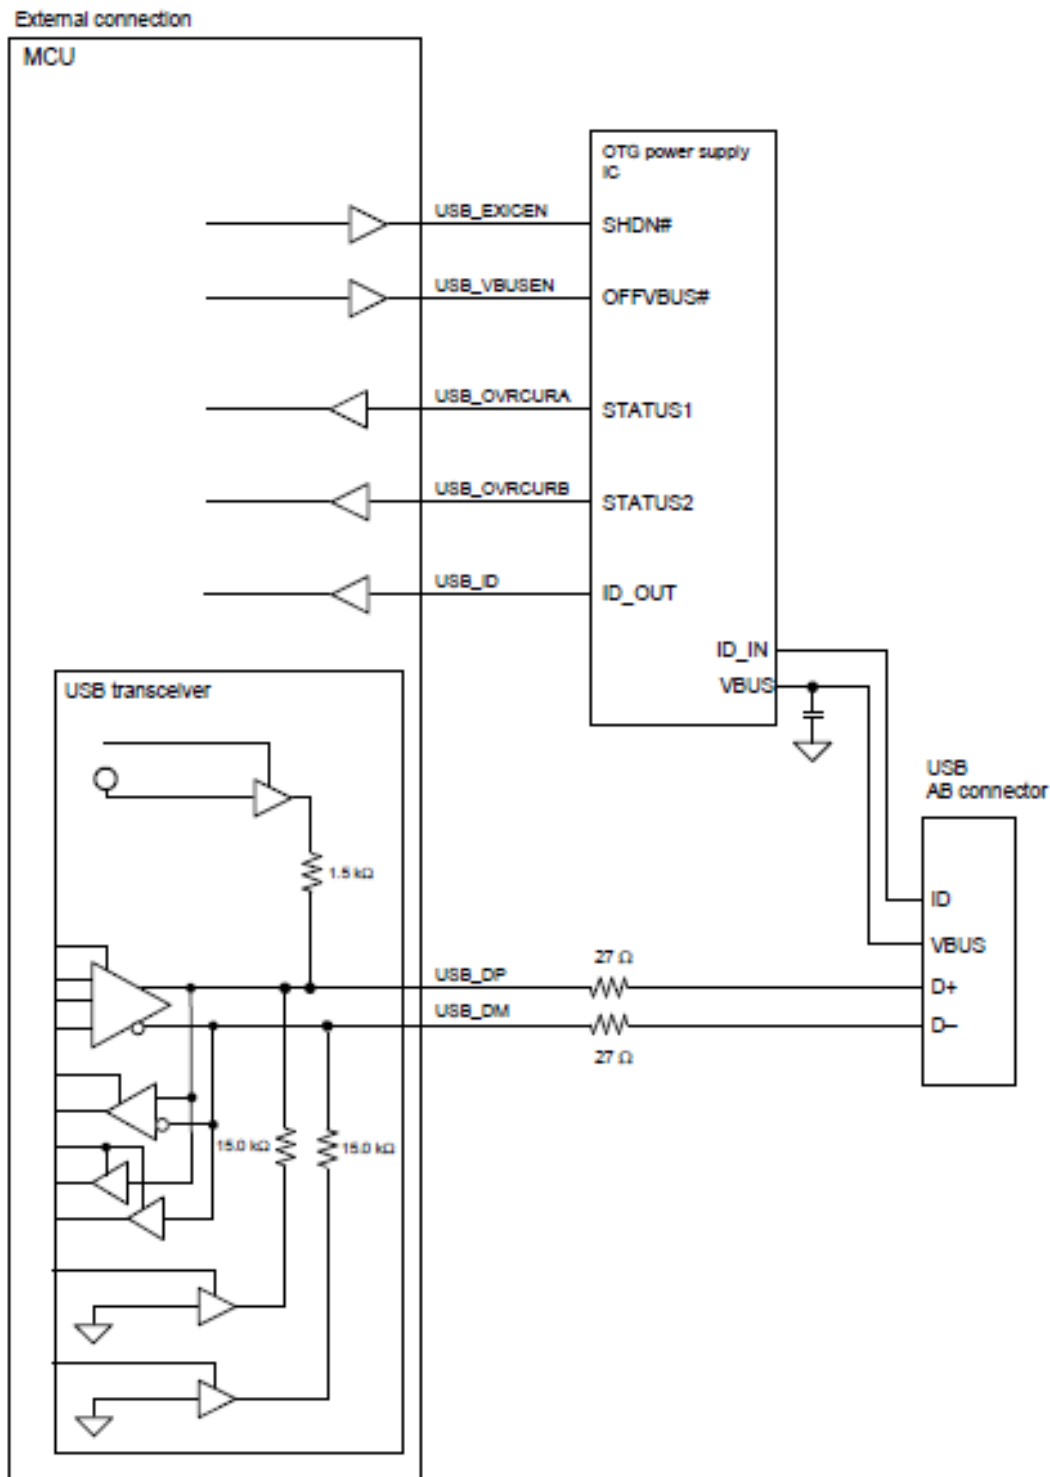
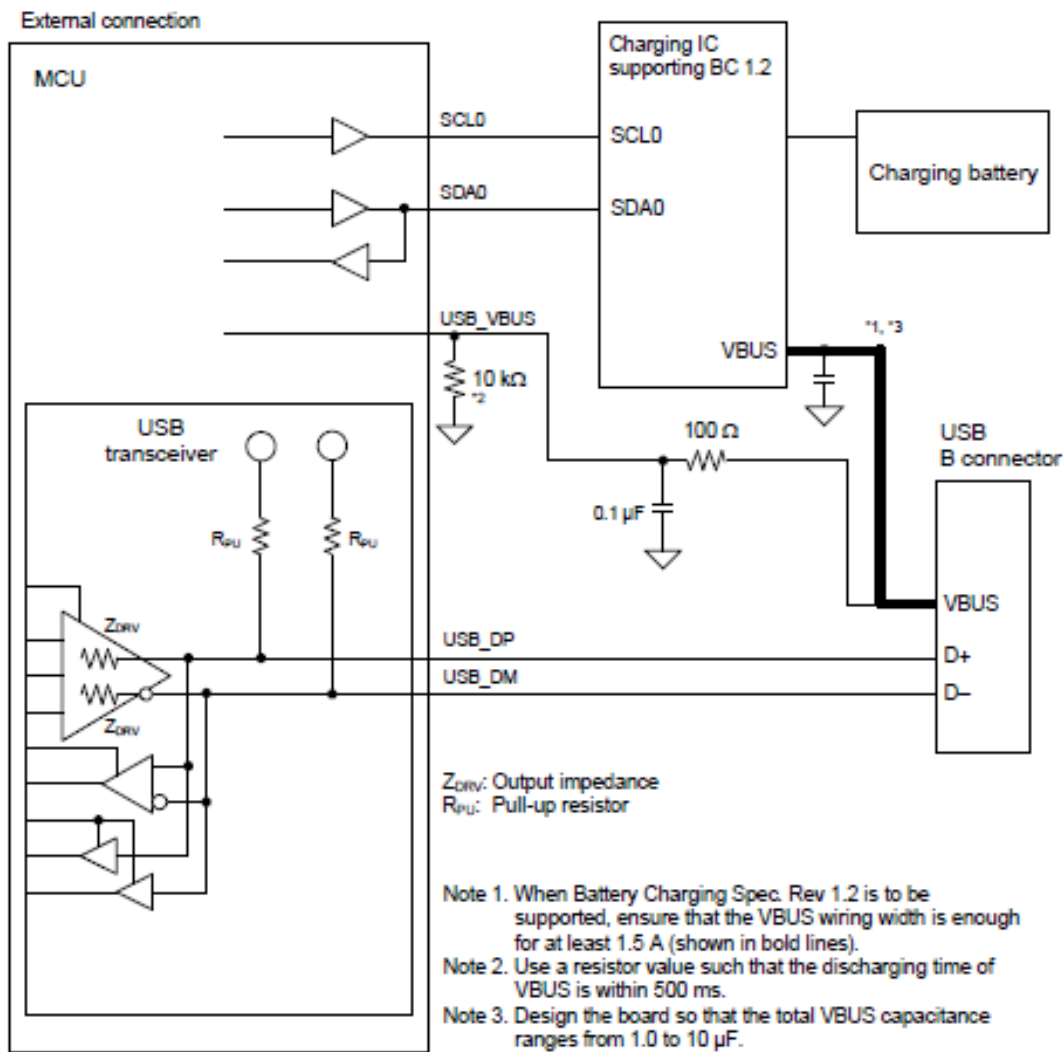

Figure n.5 Example OTG connection in self-powered state
Figure n.9 Example of functional connection with Battery Charging Rev.1.2 supported
9. (S3A7, S124) USB 2.0 Full-Speed Module (USBFS), Figure n.5 Example OTG connection in self-powered state to Figure n.9 Example of functional connection with Battery Charging Rev.1.2 supported [Before]